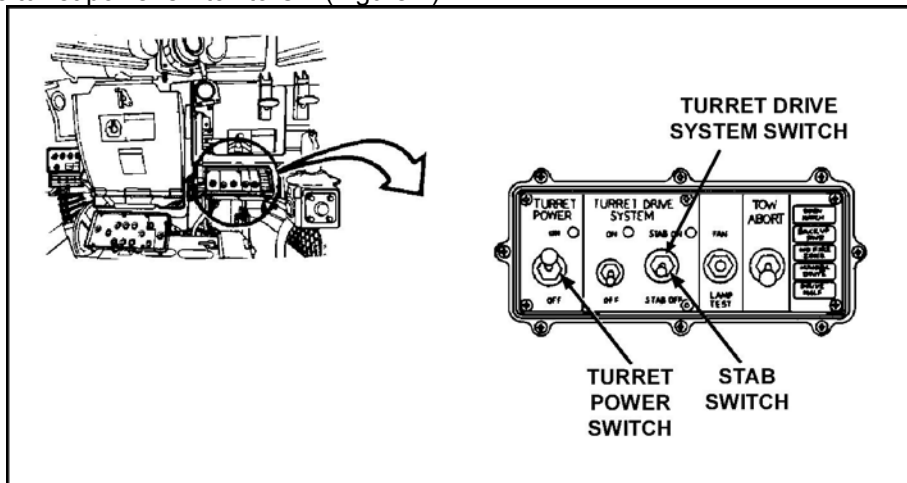

Figure 2. Turret control box.
8. Move the turret power switch to ON (Figure 2).
9. Turn the turret drive system ON (Figures 2 and 3).